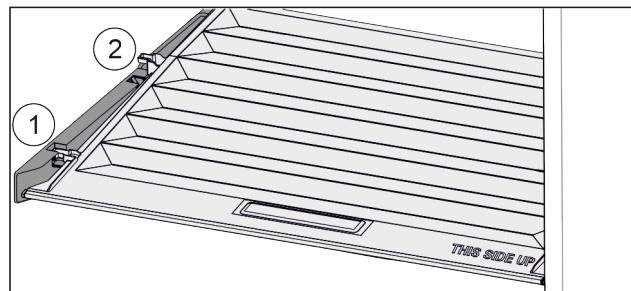

Fig. 102
- Pull the lid up at the front in the retaining parts to the opening Fig. 102 (1).
- Lift from the back and pull it up and out Fig. 102 (2).